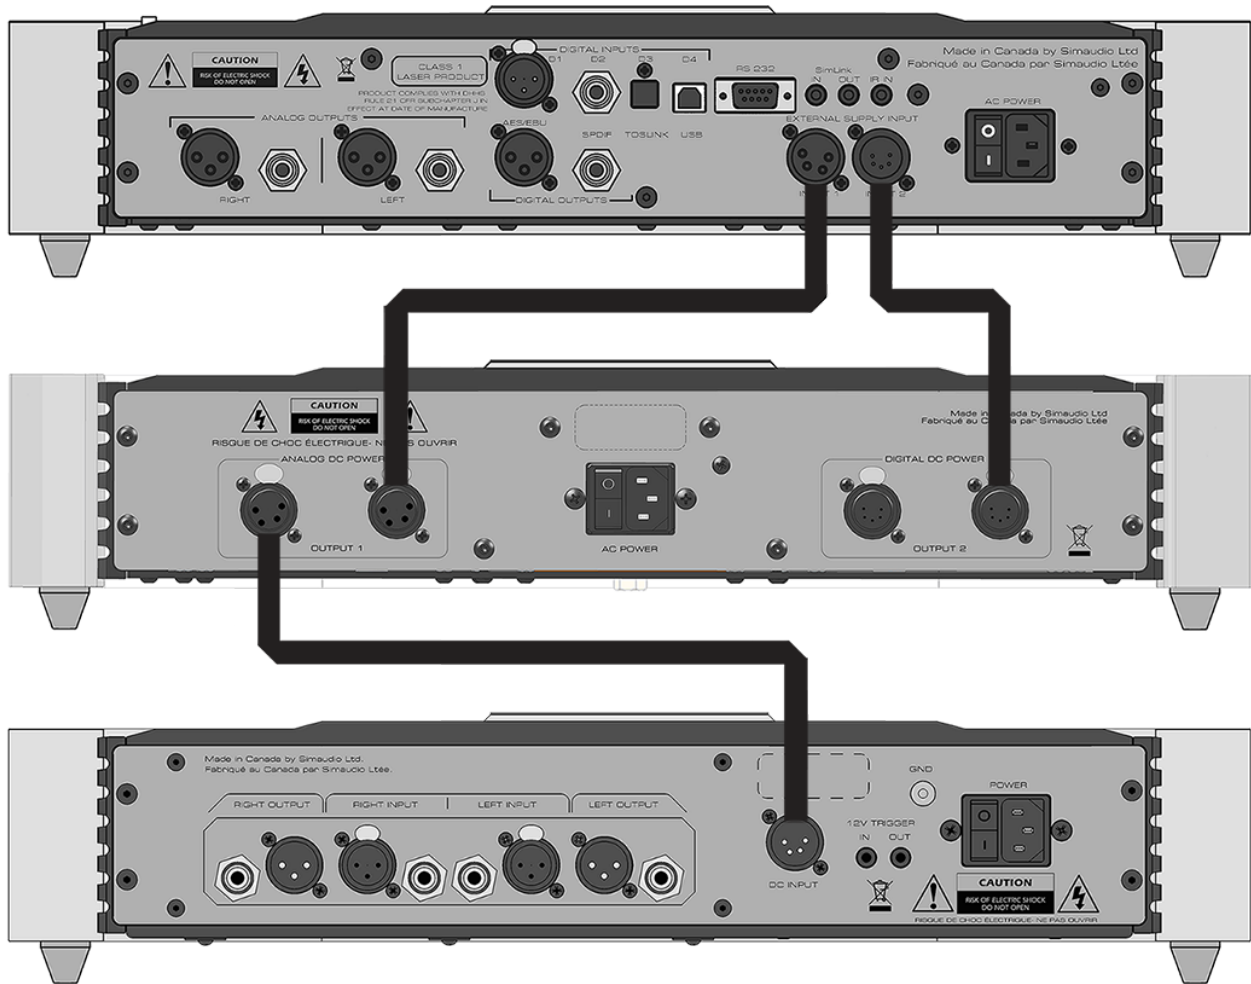

Figure 2: Connecting the 820S to other MOON Evolution components
2. Connect the 4-Pin XLR cable between one of the 4-pin XLR outputs labeled “Output 1” on the rear panel of the **820S** and the corresponding 4-Pin XLR input on your MOON Evolution component, as shown in figure 2 on the next page.
3. If applicable, connect the 5-Pin XLR cable between one of the 5-pin XLR outputs labeled “Output 2” on the rear panel of the **820S** and the corresponding 5-Pin XLR input on your MOON Evolution component, as shown in figure 2 on the next page.
**Notes:** (i) The example in figure 2 on the next page shows a 750D DAC/ CD Transport (top) connected to an **820S** (middle) by both a 4-Pin XLR cable and a 5-Pin XLR cable, as well as a 610LP Phono Preamplifier (bottom) connected to the **820S** with only a 4-Pin XLR cable. (ii) When using the **820S**, the rear panel rocker switch on any connected component(s) is bypassed. (iii) When no components are connected to the **820S**, it will automatically go into standby mode after 20 minutes.